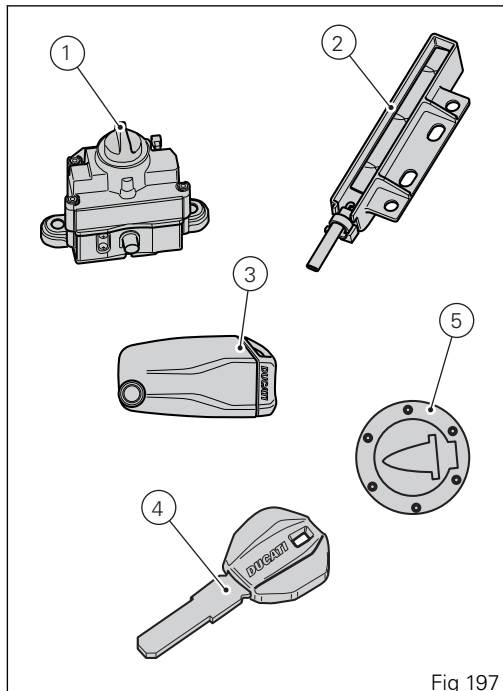

Fig 197
The "Hands free" unit (1, Fig 197) is located on the tank front end.
(1, Fig 197). When speed is not equal to zero, perform key-off by turning the Hands free button (1, Fig 197).
Key-On can be performed by pressing button (6) on the handlebar and with the presence of the active key (3, Fig 197).
Key-Off can be performed by pressing the button (6) on the handlebar. It can also be performed without the key (3, Fig 197) only if motorcycle speed is equal to zero.
Key-On can be performed by turning button (7) on the Hands free unit (1, Fig 197) and with the presence of the active key (3, Fig 197).
Key-Off can be performed by turning button (7) on the Hands free unit (1, Fig 197), also without the key (3, Fig 197).
Key-On can be performed by pressing the gray button (6) on the handlebar and with the presence of the passive key (4, Fig 197).
Key-Off can be performed by pressing the gray button (6) on the handlebar. It can also be performed without the key (4, Fig 197) only if motorcycle speed is equal to zero.
Key-On can be performed by turning button (7) on the Hands free unit and with the presence of the passive key (4, Fig 197).
Key-Off can be performed by turning button (7) on the Hands free unit (1, Fig 197), also without the key (4, Fig 197).
Key-On can be performed by turning button (7) on the Hands free unit (1, Fig 197) without the presence of the keys (3) and (4) and by entering the pin code on the instrument panel.